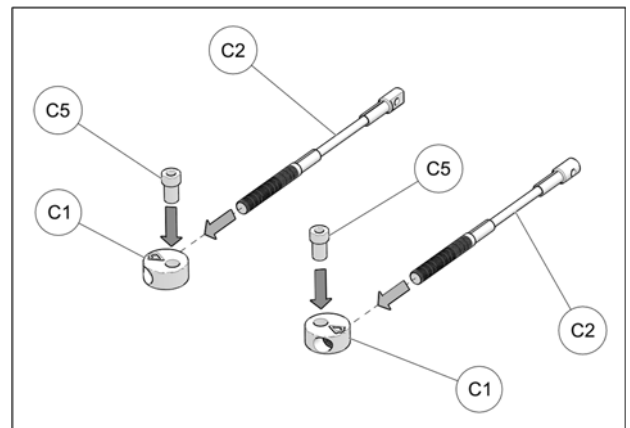

Fig. 19
9. Assemble steering limiter cables (C2), aluminum disks (C1) and step spacers (C5) together as shown on Fig. 19